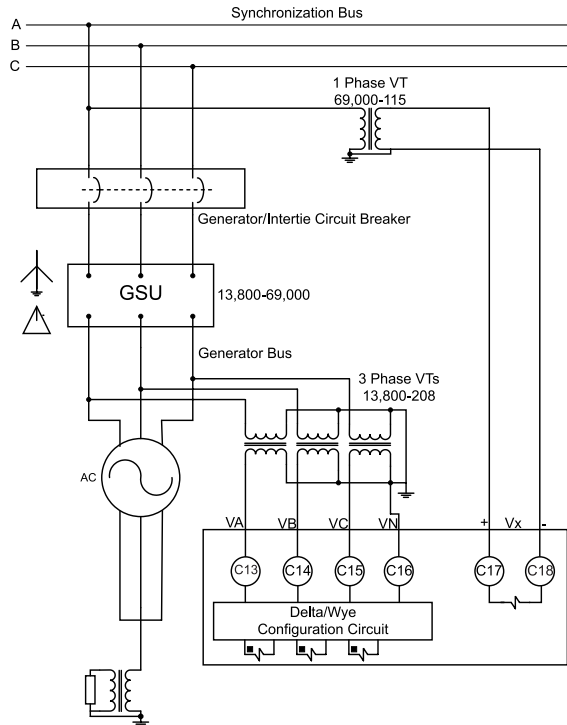
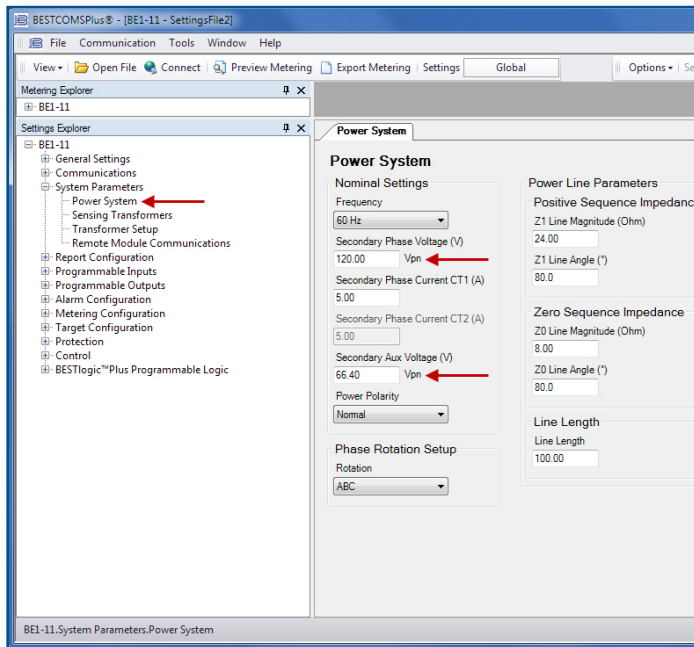

Figure 1 - System Reference Drawing
Figure 3 - Nominal Settings
Before discussing synchronization and auto synchronizers, some important terms that are used throughout this application note are defined. See Figure 1.
For the BEI-11g relay to properly evaluate the voltage magnitudes of the two systems to be synchronized, the proper quantities must be established. This is done in the "Nominal Settings" sub-tree under the "System Parameters" tree. See Figure 3. The values are input as phase to neutral. The generator bus voltage is input to the "Secondary Phase Voltage (V)" field. The example in Figure 1 shows the VT secondary voltage as 208 V_{L-L'} so the value entered in the "Secondary Phase Voltage (V)" field is 120. The synchronization bus VT shown in Figure 1 is rated for 69 kV/115 but is connected phase to ground. Therefore, the value entered in "Secondary Aux Voltage (V)" is 66.4. By following these steps, the secondary voltages of the VT sets have been per-unitized where 66.4 V and 120 V are 1 PU voltages.
The “Angle Compensation” field provides a means to match phase differences between the three-phase and single-phase aux voltage inputs caused by either VT connection types or transformers in the synchronization zone or both. The BEI-11g instruction manual shows common VT connection types and the angle compensation required. The 13,800 V generator bus in Figure 1 is stepped up through a delta-wye generator step-up (GSU) transformer to 69 kV before it is connected to the circuit breaker. Therefore, this GSU is a part of the synchronization circuit and a phase shift needs to be accounted for as a result of the delta-wye winding. This phase shift is generally going to be 30 degrees leading on the high voltage side of the GSU. As a result, the VT phasor values, when compared by the BEI-11g, are offset by this quantity, preventing proper angular comparison between the generator bus and the synchronization bus.
Figure 1 shows that no compensation to correct the VT connections is required. Therefore, only the phase shift of the GSU windings should be considered for correction. However, if both a VT connection type requiring angular compensation and a transformer with a phase shift between the high and low windings are present in the synchronizing zone of the application, the sum of the